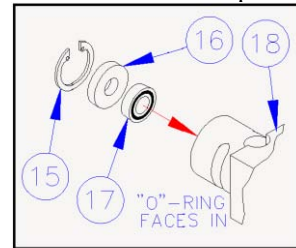

Figure 12. Wet Head Seal Installation
Install a High Pressure Seal (17) with the “O” Ring side facing in, into the smaller pocket in the top of the Wet Head (18). Place the plastic Washer (16) over the High Pressure Seal and gently press the two components into place. Refer to figure 12 for the proper component orientation. Install the internal Snap Ring (15) into the groove above the plastic Washer. Lubricate inside if seals and Insert the Metering Rod (14) into the top of the Wet Head. Gently press the Metering Rod until it just passes the High Pressure Seal. The opposite end of the Metering Rod needs to extend as far as possible for the final assembly.